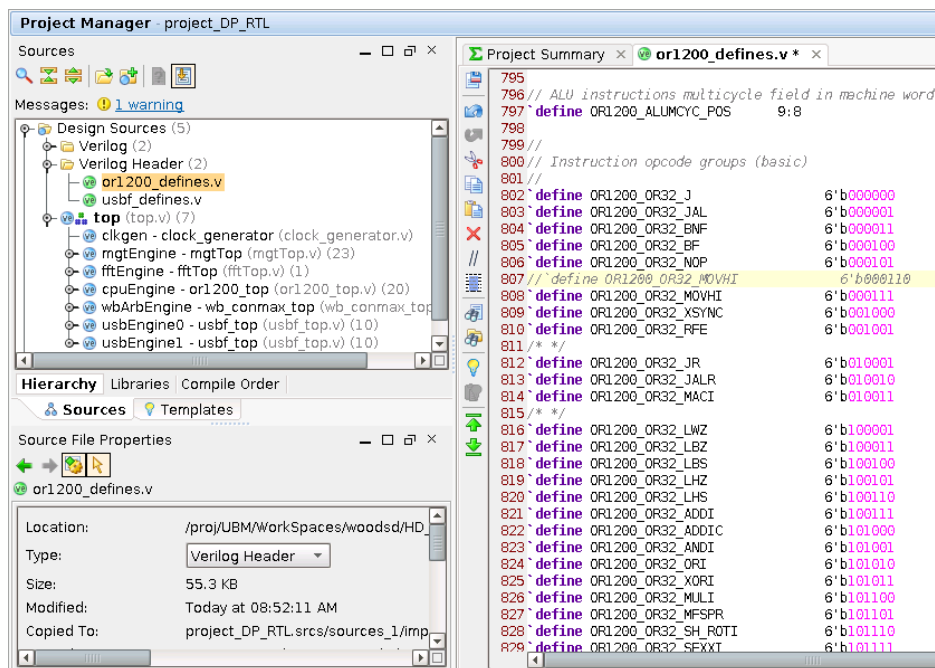

Figure 13: Updating `or1200_defines.v`
2. From the Hierarchy tab of the Sources view, expand the **Verilog Header** folder, and locate `or1200_defines.v` as shown in Figure 13.